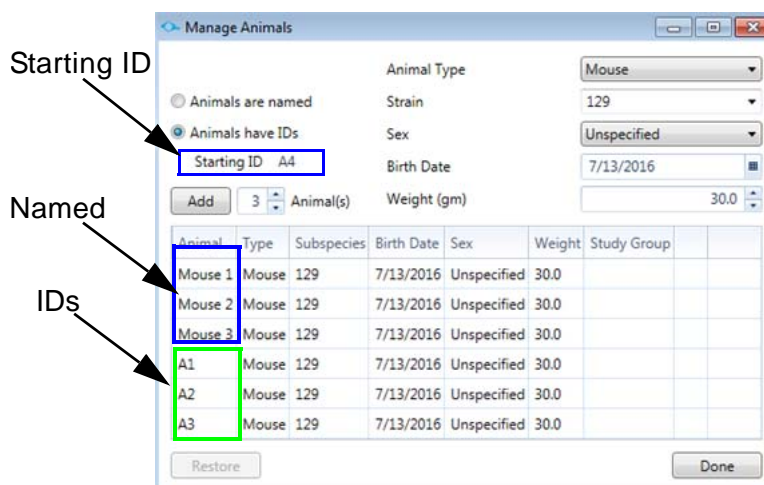

Figure 18. Animal Properties
- b Type over *ID* in the **Starting ID** text box with a starting number, letter, or name. See Figure 18.